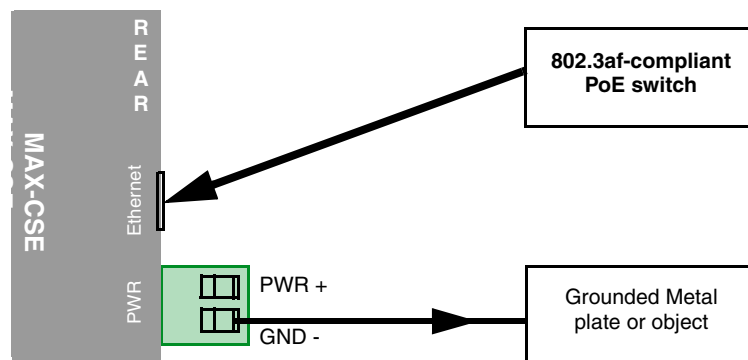

FIG. 4 ESD grounding and PoE connection of a MAX unit
- Install a single wire into the (-) GND side of the rear green 2-pin mini-Phoenix connector (FIG. 4).
- Connect this wire to a grounded source (FIG. 4). This GND wire provides the necessary ESD protection to the unit. Only after this step has been completed can you continue on to the wiring of the PoE connection.
- Connect a CAT5/CAT6 Ethernet cable from the RJ-45 PoE connector on the PoE switch to the rear RJ-45 (Ethernet) connector on the target MAX unit (FIG. 4).